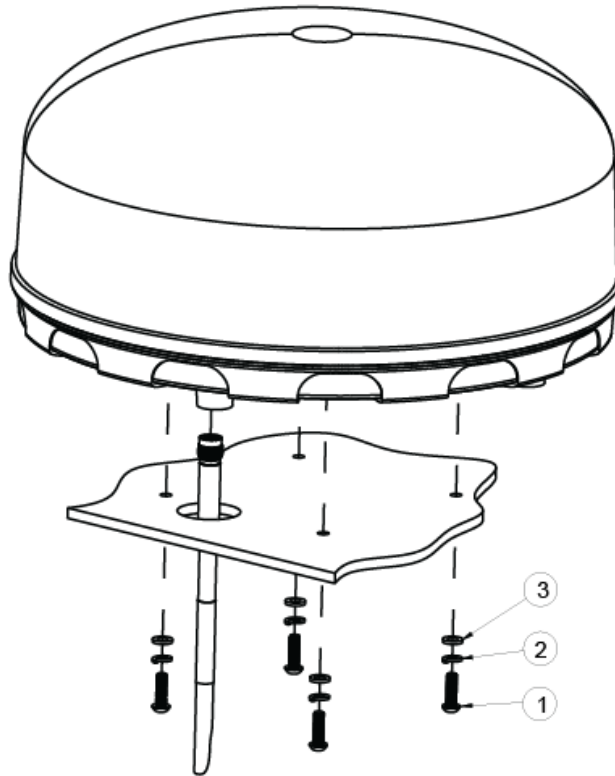

Figure 2-4 Above Deck Unit / Antenna Installation (M6 Hardware)
4. Assemble screws (1) with flat washers (3) and split lock washers (2) as shown in Figure 2-4 and torque to requirements.
5. Connect coaxial cable as shown in Figure 2-4 and hand tighten.
6. After connecting the cable to the antenna (Figure 2-4), wrap the connector with the self-vulcanizing tape to ensure a water-tight seal.